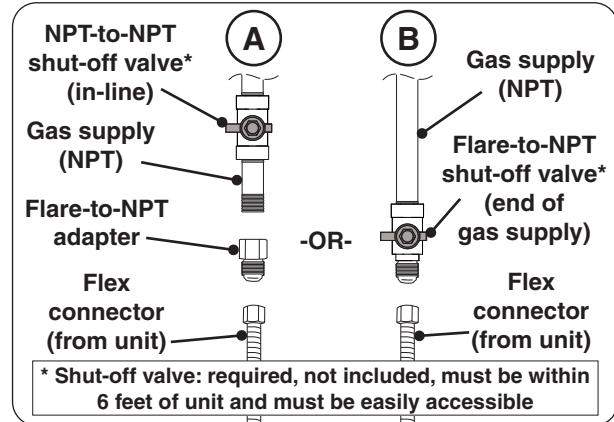

Fig. 20-1 Connecting to a gas line
- Install the supplied flare-to-NPT adapter to the gas supply (NPT) using a pipe joint compound resistant to all gasses (see Fig. 20-1, A). Tighten securely.
- Connect the flex connector to the adapter (see Fig. 20-1, A). Tighten securely.
- Connect the flex connector to the shut-off valve (flare) (see Fig. 20-1, B). Tighten securely.